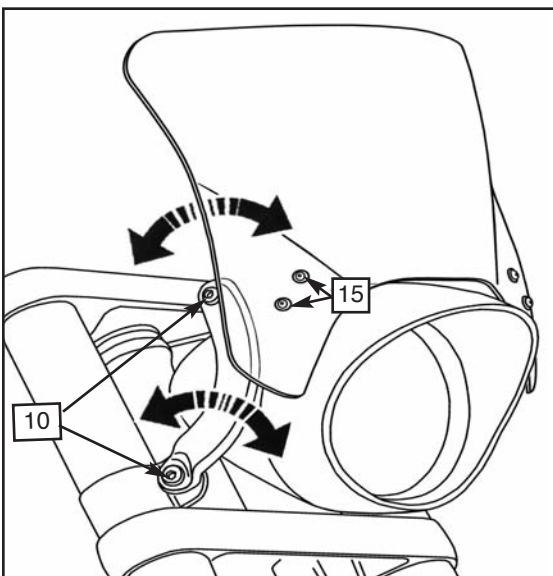

Figure 7
15. Adjust the Windshield to the desired position and securely tighten the 4 Screws (10). **(6mm Hex Wrench) Figure 7**
16. Securely tighten the 4 Screws (15) and Nuts (16) in the Windshield Brackets **(4mm Hex Wrench and 10mm Socket) Figure 7**